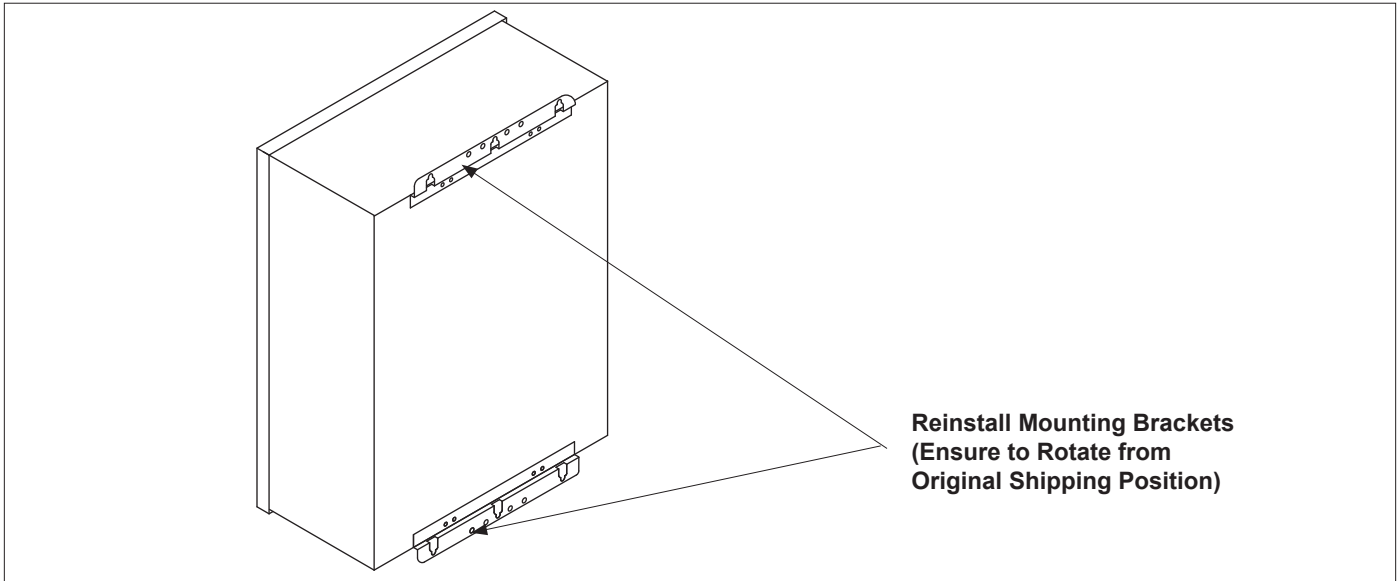

Figure 11. Reinstall Mounting Brackets on Power Center
4. Reinstall the mounting brackets to the top and bottom of the back of the Power Center using the four (4) screws that were removed in *Step 2*. Ensure that the brackets are rotated from the original shipping position (see Figure 11).